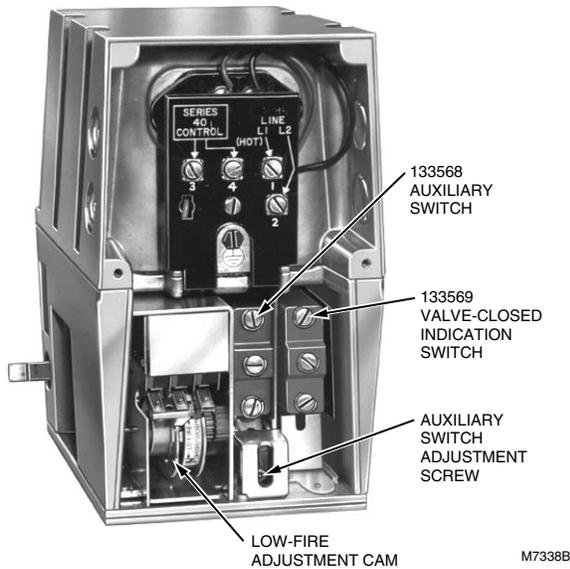

Fig. 2. V4062 Actuator with cover removed.
3. Insert the auxiliary switch in the position indicated in Fig. 2. Fasten with two screws through the actuator base.
4. Insert the proof-of-closure switch in the position shown in Fig. 2. The proof-of-closure switch mounts against the side of the actuator housing. The mounting holes are spaced to allow mounting the switch only in the correct position. Fasten with two screws through the actuator base.
The auxiliary switch can be adjusted to operate at any point in the actuator stroke. After installing the switch in the actuator, turn the adjustment screw (Fig. 2) clockwise  to cause the switch to operate earlier in the stroke or turn counterclockwise  to cause the switch to operate later in the stroke.
### Adjust Max Flow Limit Switch (Fig. 2)